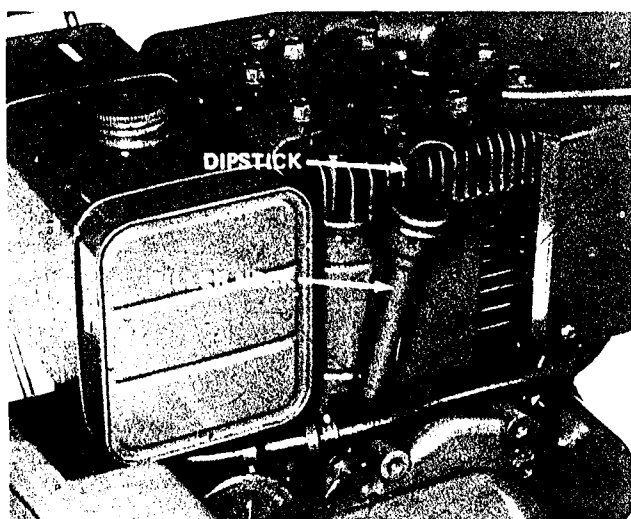

Figure 20
2. Clean area around dipstick so foreign matter does not enter filler hole when dipstick is removed. Next, remove dipstick from filler neck (Fig. 20).
4. Wipe end of dipstick. Next, push dipstick completely down into filler neck to get accurate oil level reading (Fig. 20); then pull dipstick out and check oil level. If level of oil is low, add enough oil to raise level to "F" mark — full — on dipstick. **DO NOT OVERFILL.**
5. Push dipstick into filler neck (Fig. 20).